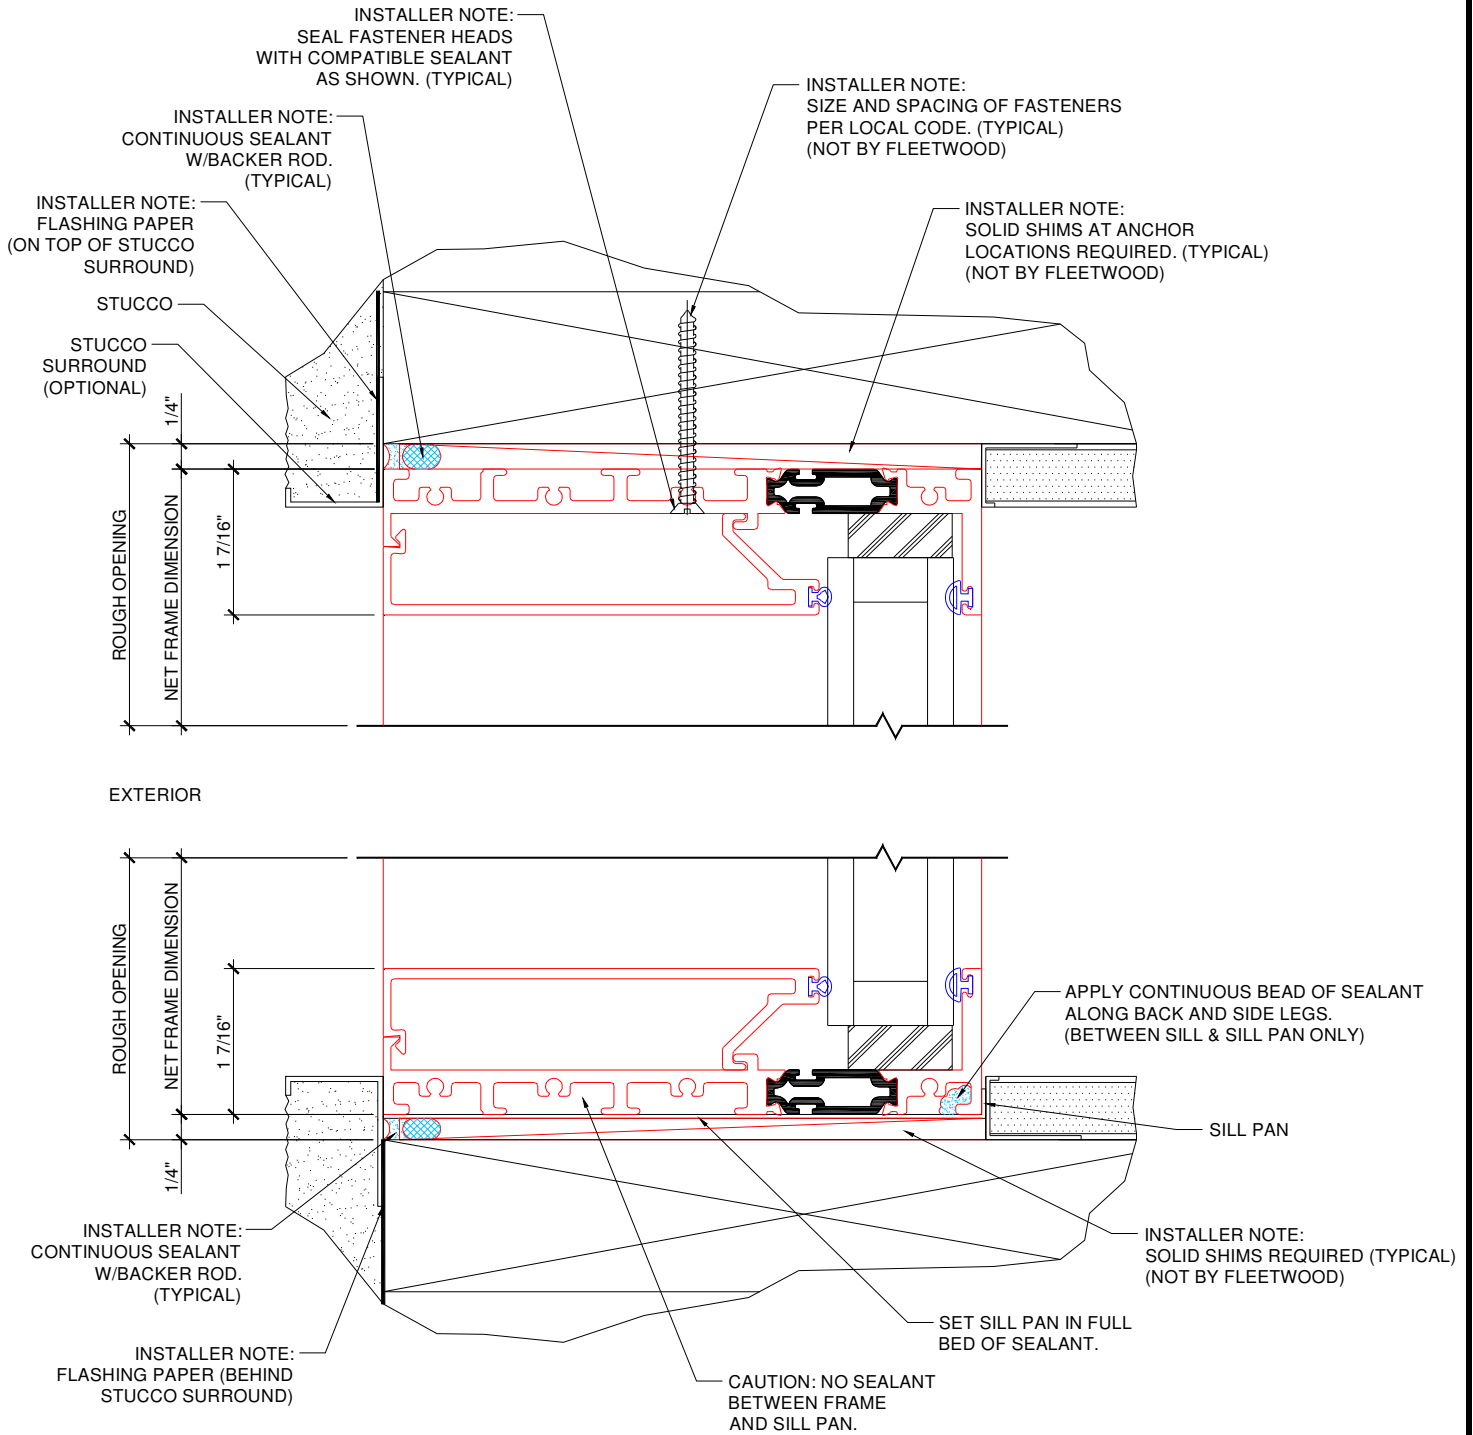

Figure 12:
3. Insert the frame into the opening and set the sill in a full bed of sealant (Figure 12). Cross-measure and adjust as necessary to achieve a plumb square and level condition, as well as an even reveal around the framed opening. Shim with non-porous, non-absorbent, inorganic shims where needed. Seal all fastener heads with compatible sealant. Only drill holes through Sill as required for design load.